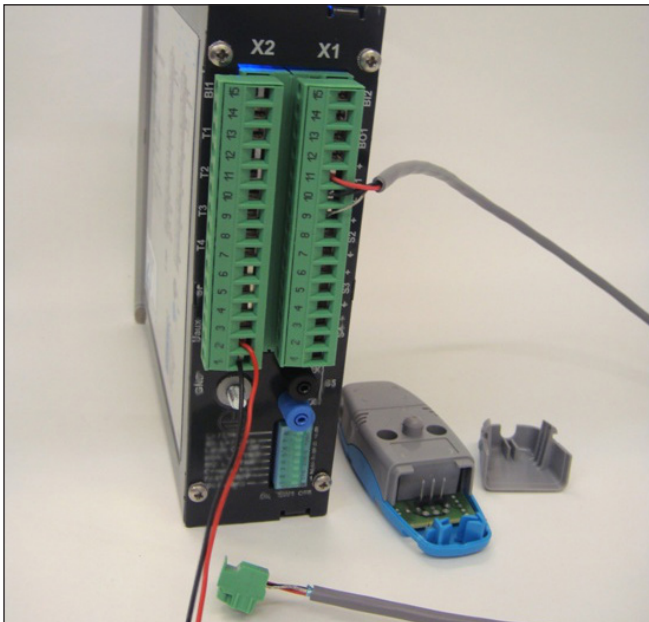

Figure 9. EAFR-01 sensor connection step 3.
3. Connect the other end of the cable to a sensor channel on the EAFR-101 or EAFR-110PLV relay (see Figure 9).